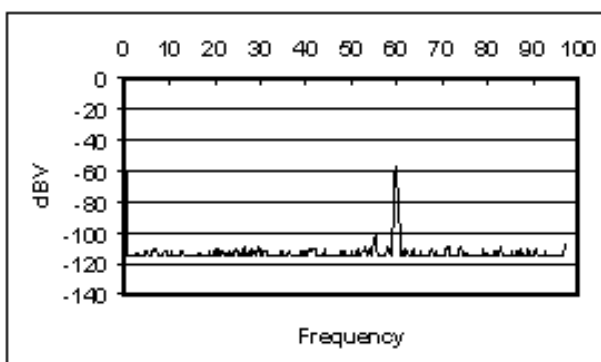

Figure 13: Without Shaking the Cable
3. Hook up a coaxial cable to INPUT A and let it cable hang still. Using the *Interface* program, take a set of data points. Look at the spectrum. You should see something as in **Figure 13**. Note the $1/f$ and capacitive noise. Include a copy of these data in your lab write-up.